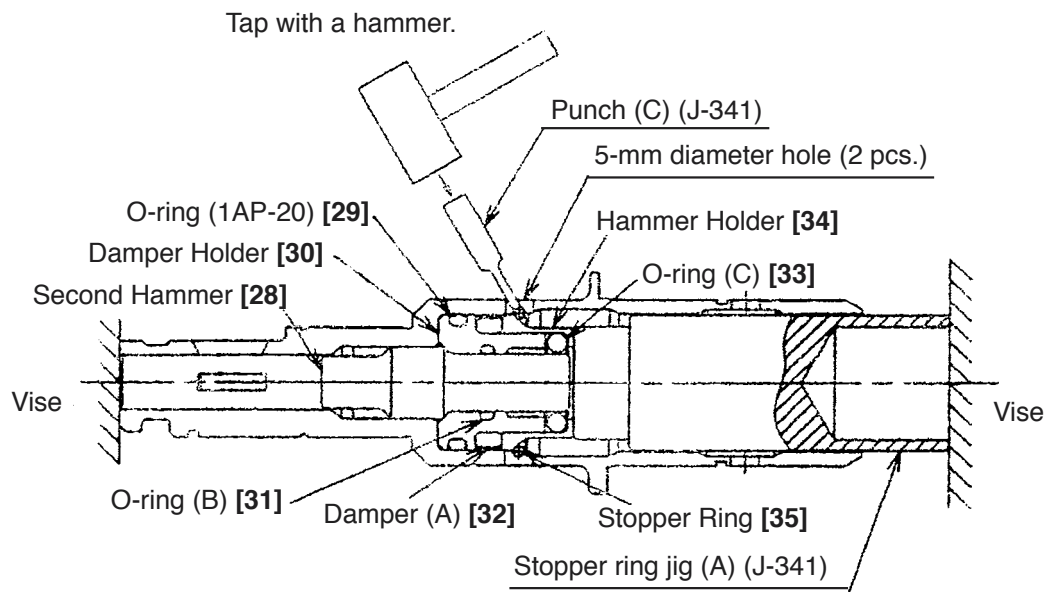

Fig. 18
(6) Disassembly of the cylinder and the second hammer
Remove the Stopper Ring [35] from the inside diameter portion of the Cylinder [18]. Then the Second Hammer [28], O-ring (1AP-20) [29], Damper Holder [30], O-ring (B) [31], Damper (A) [32], O-ring (C) [33] and Hammer Holder [34] can be removed from the Cylinder [18]. As shown in Fig. 18, insert stopper ring jig (A) (J-341) into the no-hole side of the Cylinder [18] until it contacts the end surface of the Hammer Holder [34]. Hold the Cylinder [18] and the end surface of stopper ring jig (A) (J-341) with a vise, and compress Damper (A) [32] (it moves a little when the Stopper Ring [35] is pressed with punch (C) (J-341)). Insert punch (C) (J-341) into the 5-mm diameter hole (2 places) in the Cylinder [18] and tap the outside of the Stopper Ring [35] until the Stopper Ring [35] cannot be seen from the 5-mm diameter hole (2 places) to remove the Stopper Ring [35] from the groove of the inside diameter portion of the Cylinder [18]. Then remove the Cylinder [18] from the vise and pull out the Stopper Ring [35] from the inside diameter portion of the Cylinder [18] with ring puller jig (B) (J-341) being careful not to pop out the Stopper Ring [35]. At reassembly, replace the Stopper Ring [35] with new one as the removed Stopper Ring [35] is deformed. To prevent idle hammering, also replace O-ring (C) [33] with new one at reassembly.